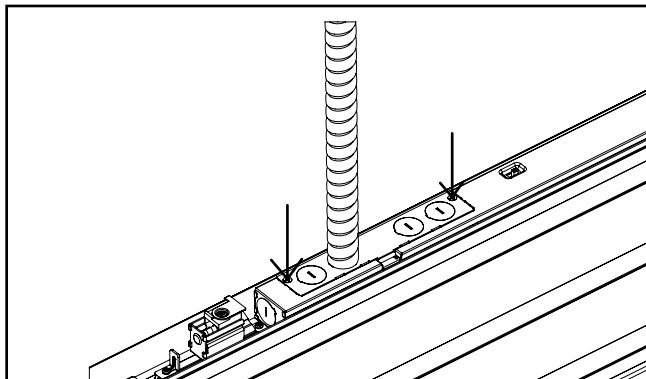

Figure 15.
10. Cover wires with access plate and re-install screws to finish installation (See Fig.15).